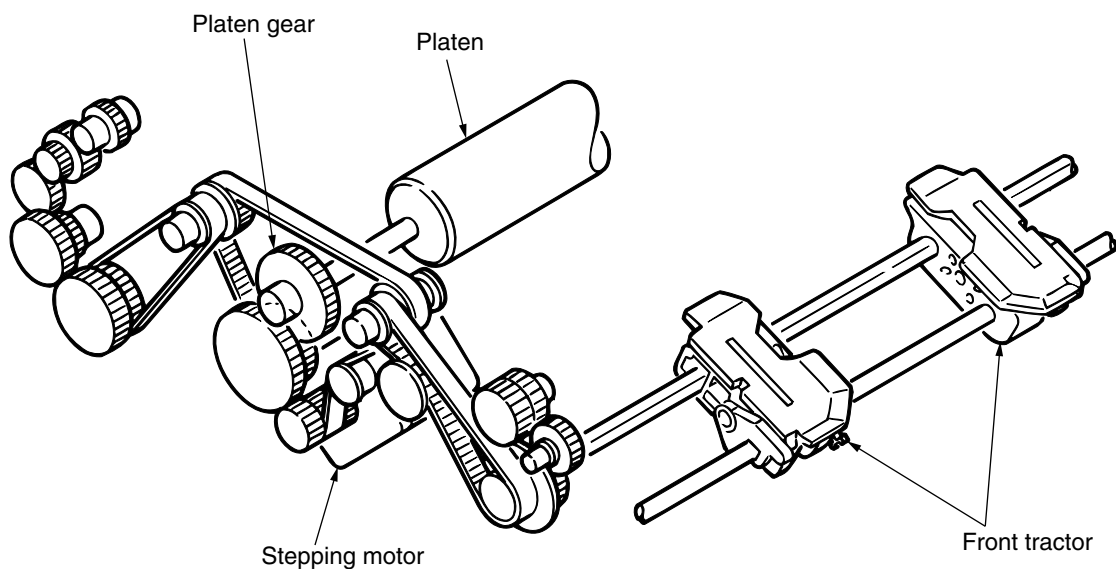

Figure 12-8. Continuous-Form Driving Mechanism (Front Tractor)
12.3.5 Paper Feeding (See Figures 12-8, 12-9, and 12-10.)